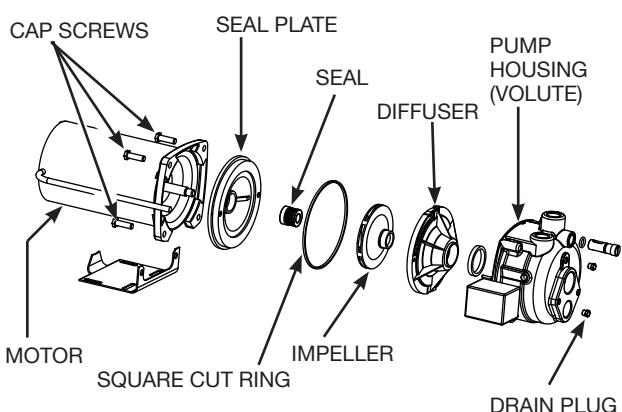

Figure 12 - Convertible Well Pump
3. Remove 4 cap screws holding pump housing, do not disconnect pressure switch. (Figure 12)